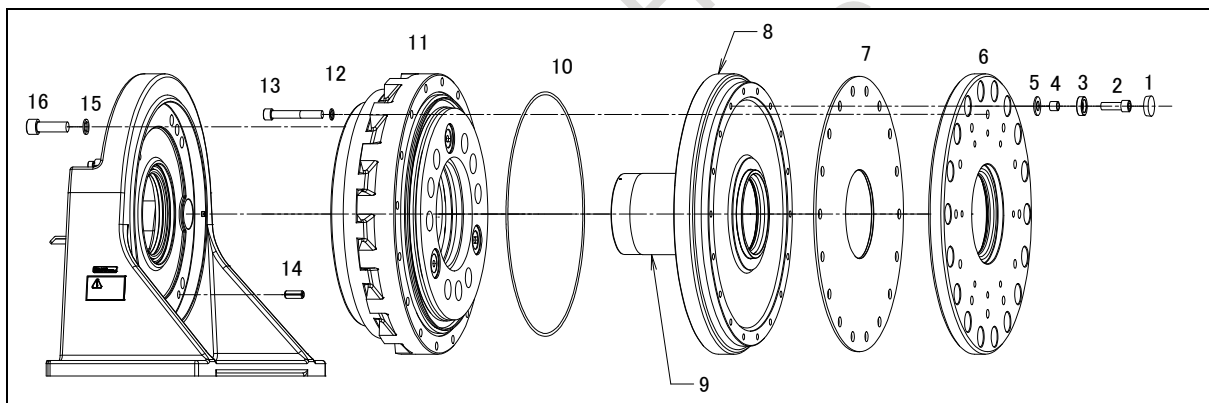

Fig. 6.2.2 Replacing the reducer (1000kg/1500kg payload (Hollow type))
- 3 Remove the covers (1), bolts (2), washers (3), insulators A (5) and B (4), flanges (6) , insulators C (7) in that order.
- 4 Remove the bolts (16) and washers (15) that fix the reducer (11) and base and then remove the reducer (11) and the components ahead of it.
- 5 Remove the bolts (13) and washers (12) that secure the reducer and adapter and remove the reducer (11) from the adapter (8).
- 6 Apply sealant to a new reducer as described in Section 6.3 and assemble these components in the reverse order. Install the insulator B (4) after installing the insulator A (5). Replace the O-ring (10) with new ones and put them in place. Be careful not to damage the oil seal. For the tightening torque and the application of LOCTITE, see Fig. 6.2.2 below table.